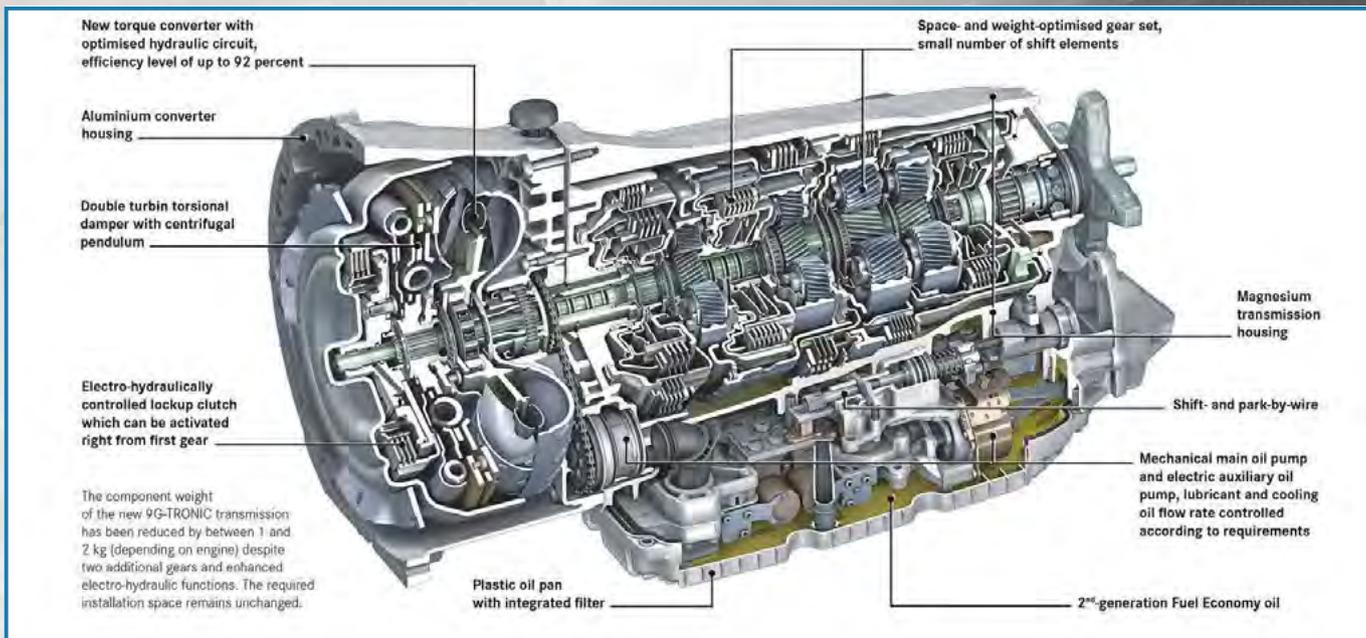

Figure 4: 9 G-Tronic Transmission
**Nine Speeds** — Daimler broke the mold and designed the first nine-speed automatic transmission for Mercedes Benz. The 9G-TRONIC (figure 4) debuted in the 2016 Mercedes Benz E350 Bluetec. It was designed to replace its predecessor, the 7G-TRONIC, and has an